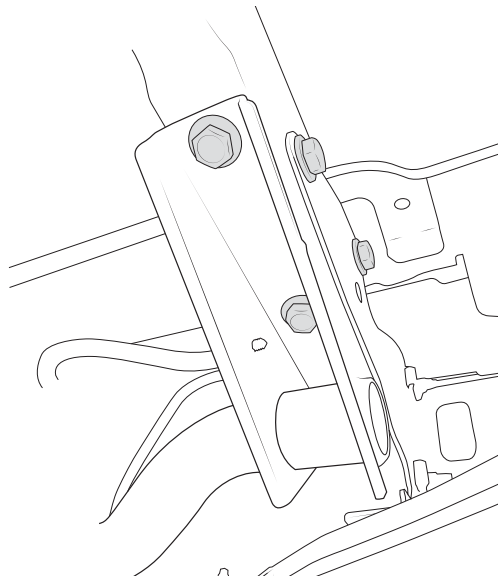

Figure 5
5. Remove 8 M14 bolts (4 each side) holding hitch and rear bumper to frame and SAVE (fig. 5).